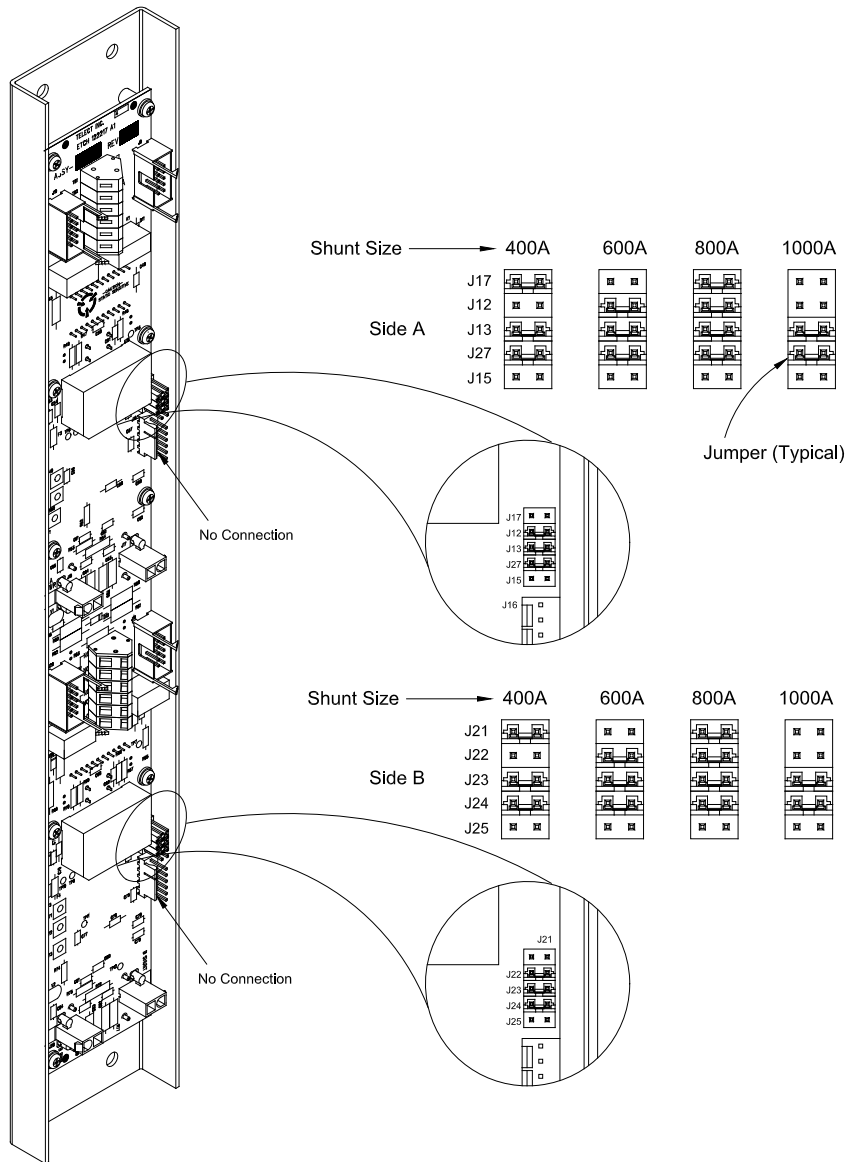

Figure 3 - Jumper Settings for Shunt Size
3. On the rear of the digital metering panel, preset the jumpers on the alarm board to match the amperage of the installed shunts. (See Figure 3.)